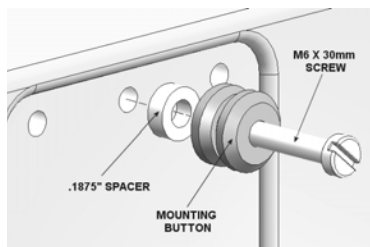
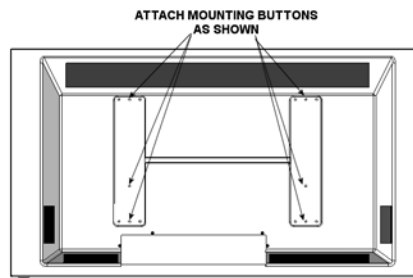

Figure 3
Figure 4
2. Attach mounting buttons to plasma using the six M6 x 30 screws and the Nylon spacers provided (see Figures 3 & Figure 4).